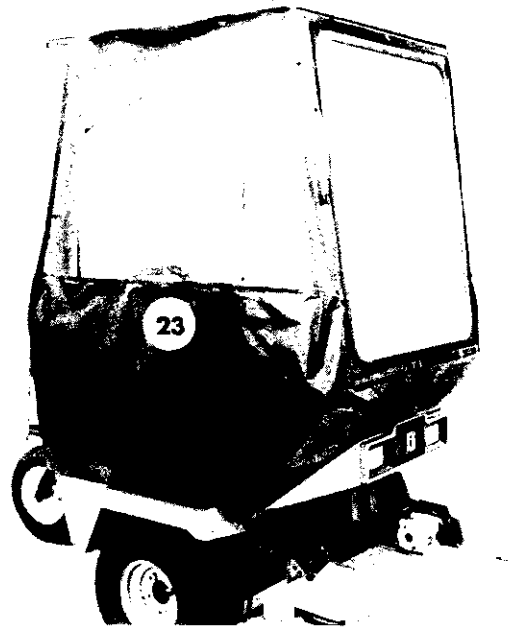

FIGURE 10
**STEP 10; SEE FIGURE 10:**
- A. Close the snap flaps at the top of the **RIGHT PANEL (23)**, around the top frame. Connect the snaps on the windshield to the vinyl. Fasten the velcro strips on the front panel vinyl and right panel together.